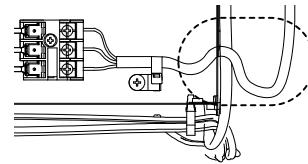

Fig. 23
- Be sure that the shape of the power supply cable and any other cable, before entering unit, should be as shown in Fig. 23.